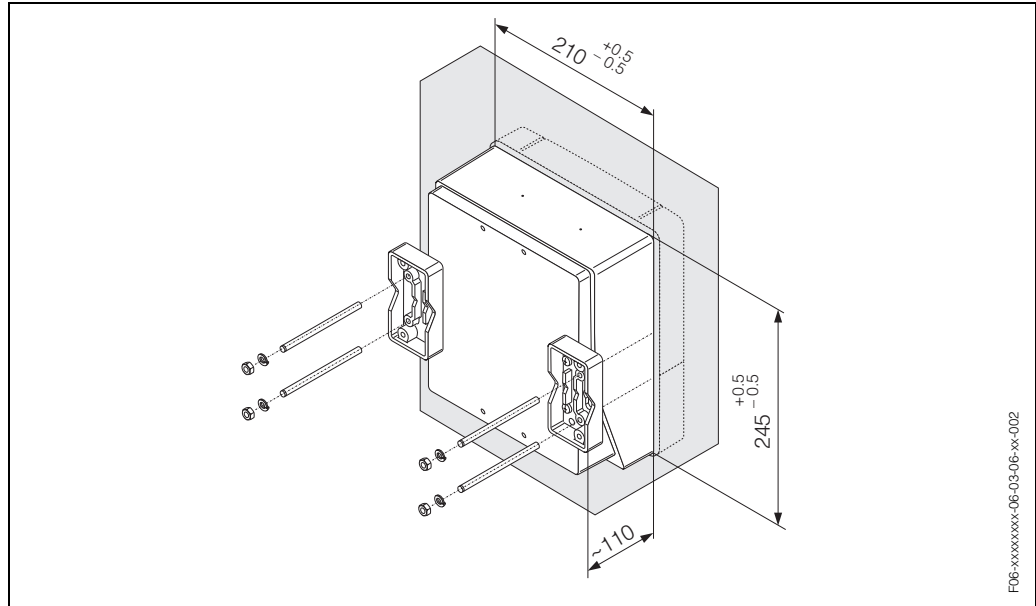

Fig. 27: Panel Installation (wall-mount housing)
1. Prepare the opening in the panel (Fig. 27).